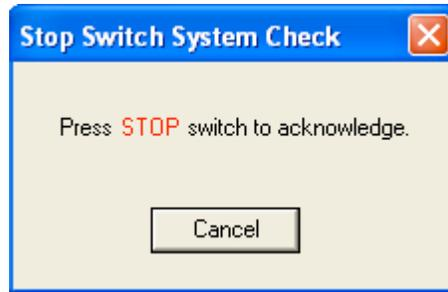

Figure 4-19: Pop up message to press “STOP” button
- 4) A message, see Figure 4-19, will pop up alerting the operator to push the “STOP” button (the red button plugged into T2 on the Abacus); press it.